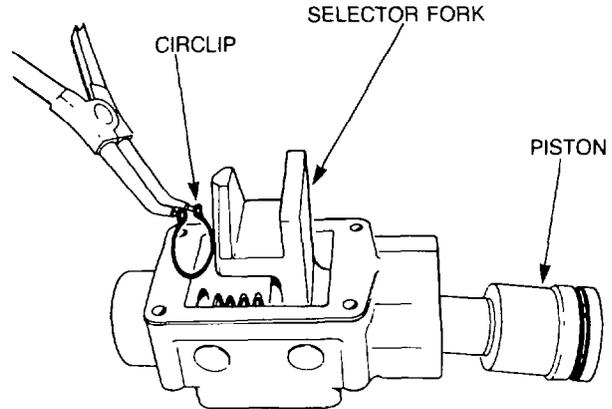

Figure 198 — Installing Circlip
- b. Insert the piston partially into the cylinder bore, then position the selector fork and circlip onto the piston (see Fig. 198). Ensure that the step in the fork is facing the correct way.